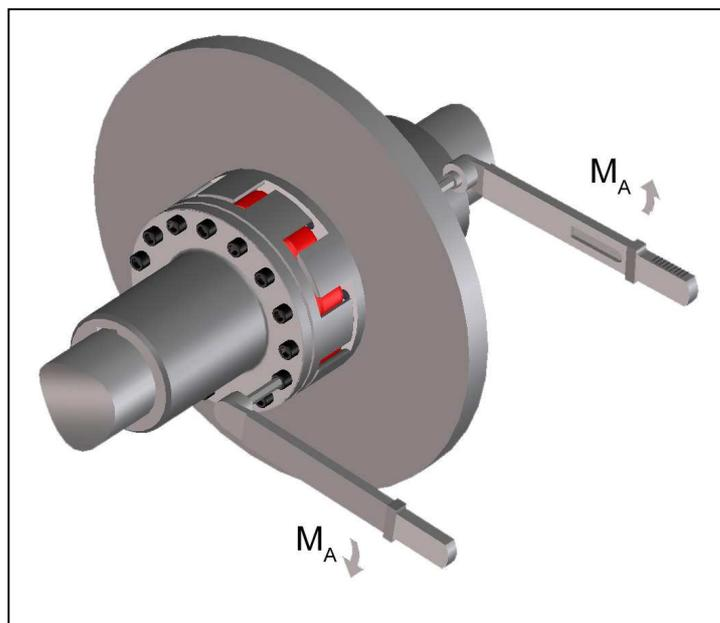

Fig. 13
- Tighten the screws to the proper torque M_A specified in table 2 and 3 (Fig 13).